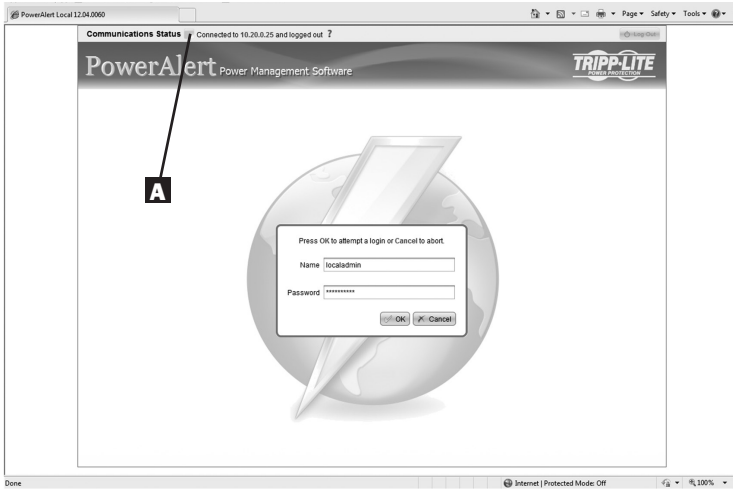

Figure 3-1: Web Console Login
3. After the applet is downloaded and connected, you should be prompted for a username and password (Figure 3-1). The default administrator username is **localadmin** and the default password is